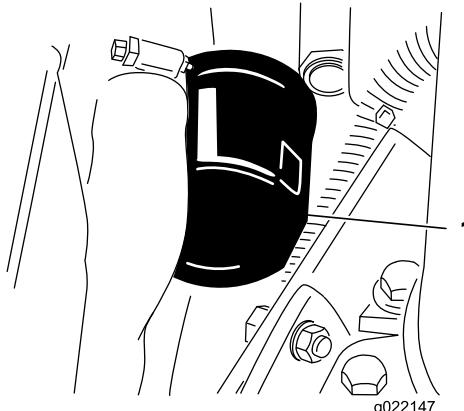

Figure 53
- Remove the oil filter (Figure 53). Apply a light coat of clean oil to the new filter seal before screwing it on. **Do not overtighten.**